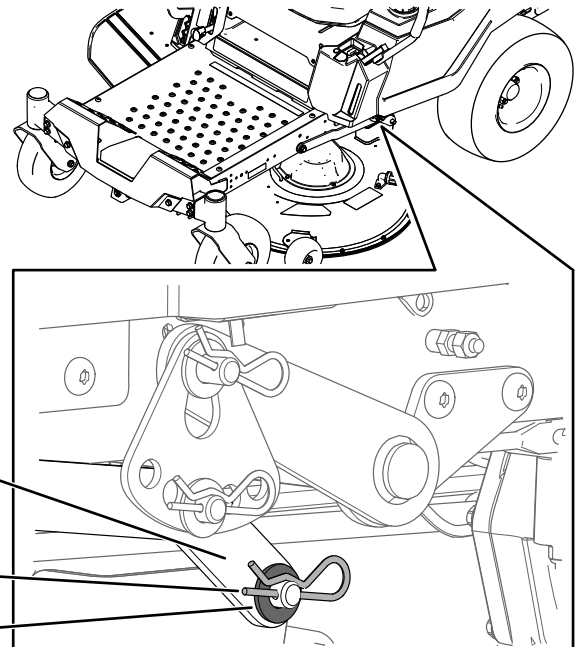

Figure 65
6. On 1 side of the machine, remove the washer and hairpin cotter from the deck pin (Figure 65).
- Remove the lift arm from the deck pin (Figure 65).
- On 1 side of the machine, lift the rear of the mower deck and install the lift arm to the deck pin (Figure 65).
- Install the lift arm using the washer and hairpin cotter (Figure 65).